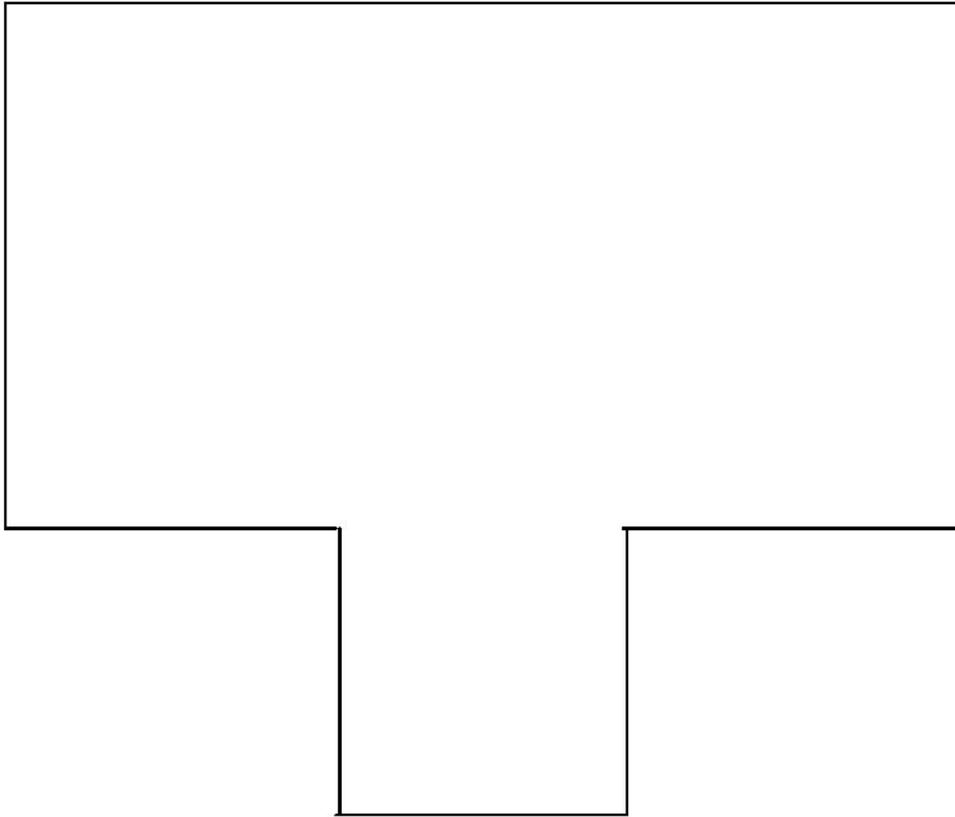

Figure 2. Shield can after modification.
4. There are 5 shield cans on the RF-A unit. The center shield in the group of 3 running lengthwise must be removed. Turn the board over and locate the four tabs which hold the subject shield in place. Using a solder sucker, solder wick or other means, remove the solder from around these four tabs and lift the shield can away from the board. The shield can must be modified as shown in Figure 2 to allow coax cables to pass. Use a nibbling tool or equivalent to notch the can.